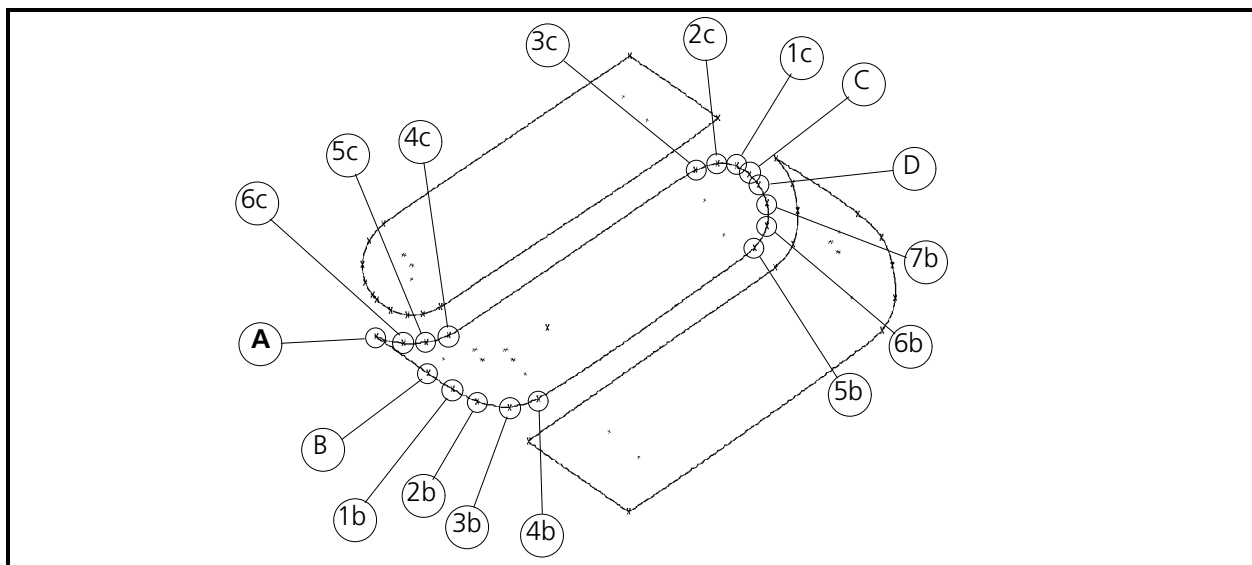

Figure 3-62
7. Go to point B as with the first section of the logo and enter a Mk2 to define the beginning of the first side (see Figure 3-62).